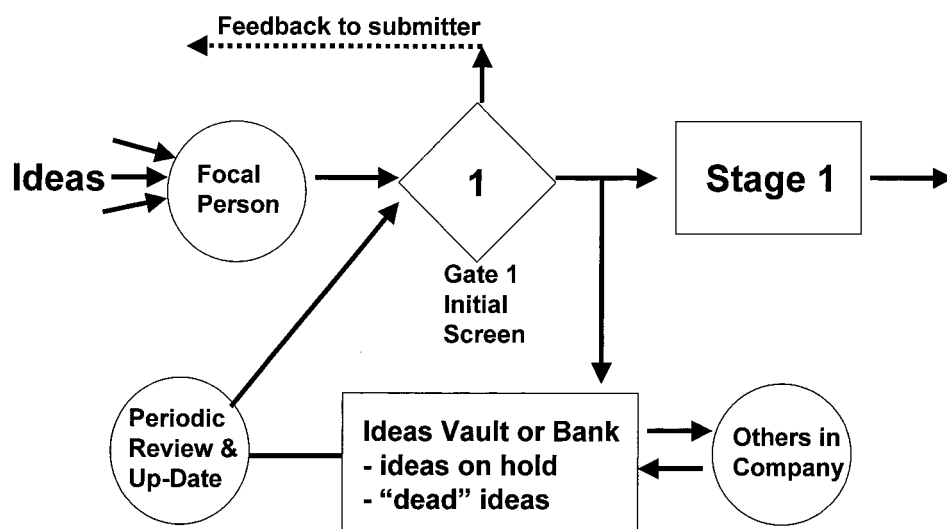

Figure 2.—Best-practice companies build an idea capture-and-handling system into the Discovery Stage.
Ideas are everywhere, inside and outside of the company. The trouble is, they often lie fallow; no decisions are made on them, and no actions are taken. Leading companies, such as Guinness Breweries, establish a proactive idea capture and handling scheme, as shown in Figure 2. Here's how it works (4):